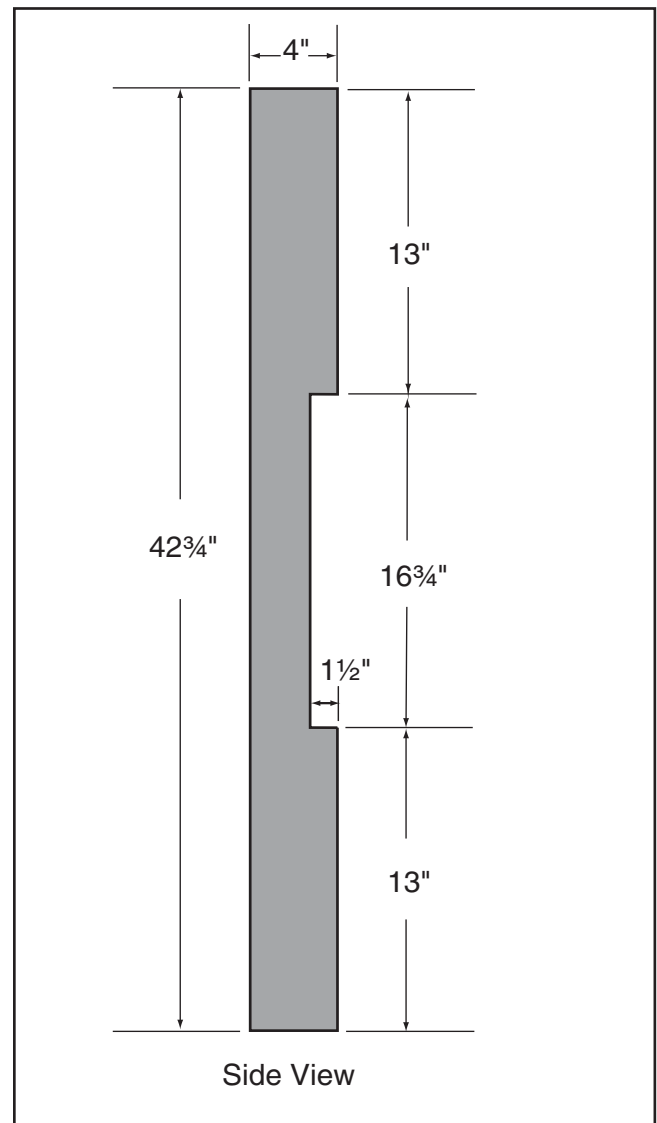

Figure 45. Dimensions of coplanarity gauge.
1. The body of the bandsaw does not allow you to place a regular straightedge across both wheels at the same time. We’ve found a simple way to overcome this situation. All you need is a 42³/₄" x 2" x 4" board, a jointer and a circular saw. Run the 2" x 4" across a jointer on the side to be placed against the wheels, then cut two 1³/₄" x 3" notches; one 13" from the top of the board, another 13³/₄" away from the bottom. Refer to **Figure 45** for more details on how to make this gauge. Note—A jointer is ideal for making the 2" x 4" straight, but ripping a straight cut on a table saw will also work.